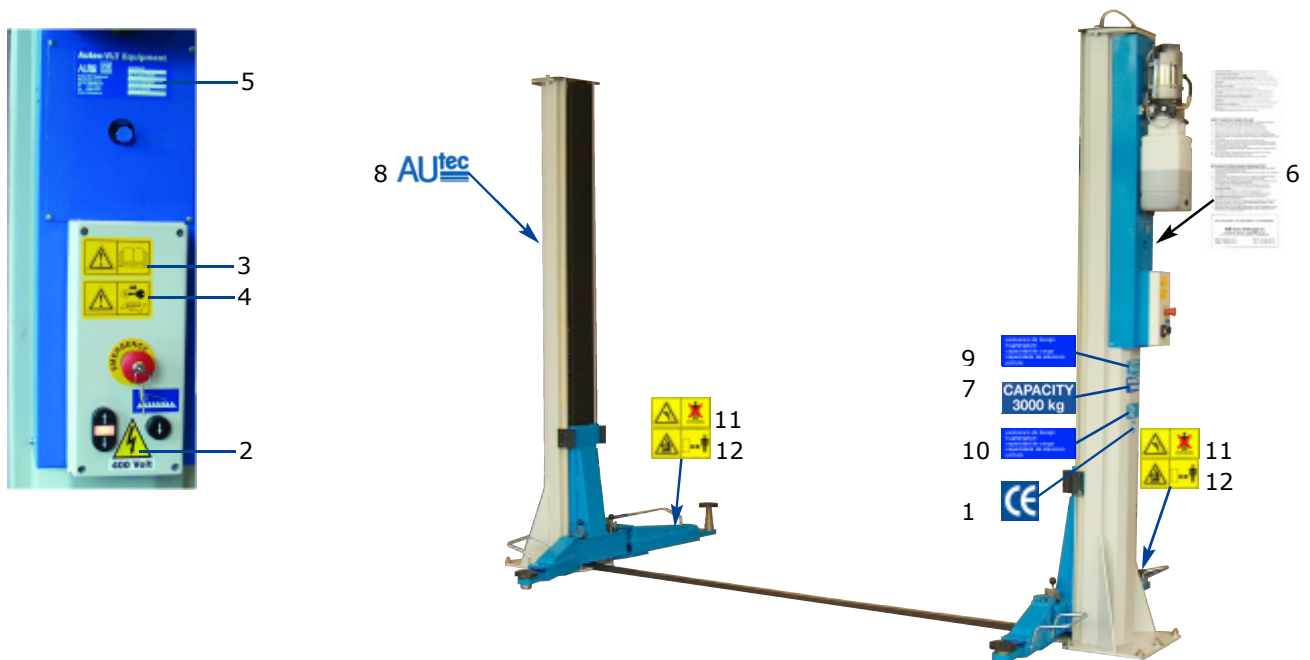

fig. 2
2.5 Pictograms on lift (fig. 2)